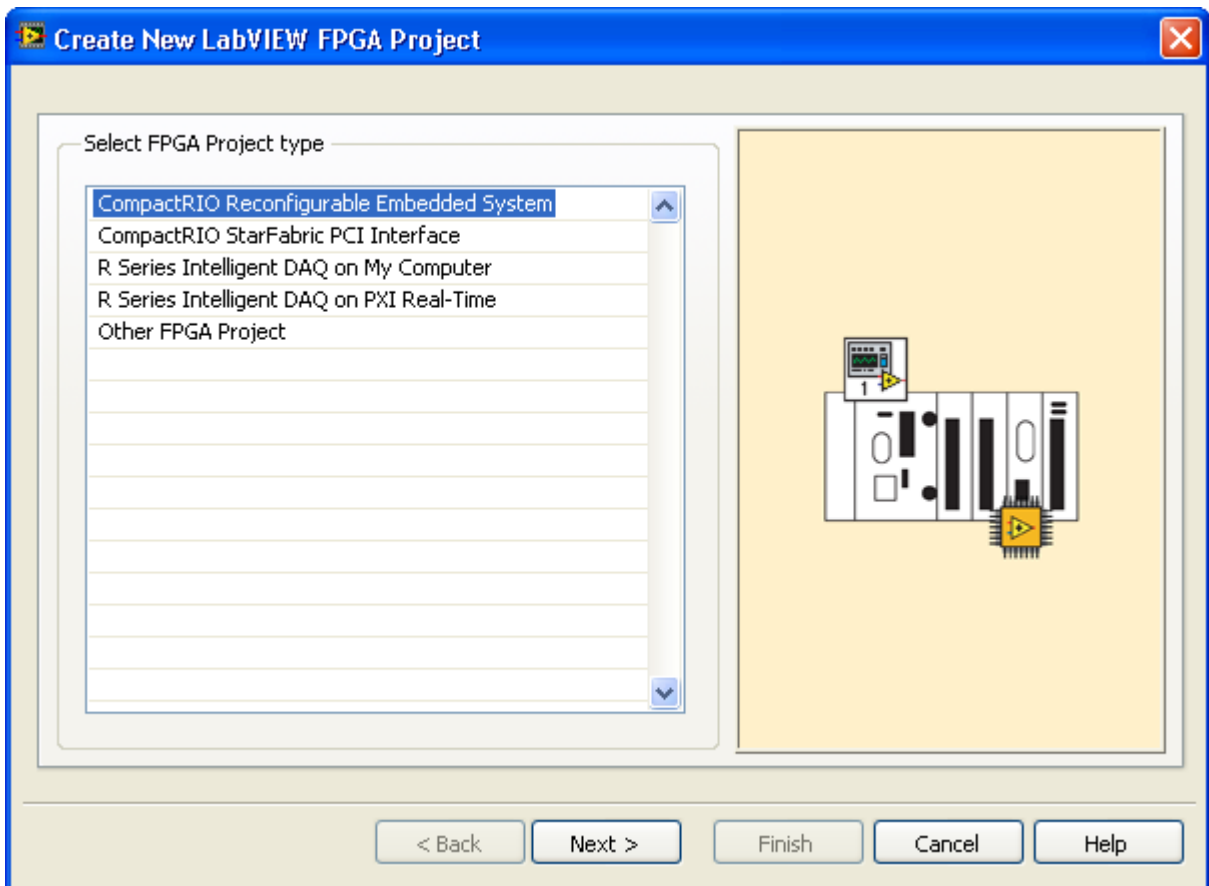

Figure A2 Create New LabVIEW FPGA Project
2. Select Compact RIO Reconfigurable Embedded Systems under Select FPGA Project Type in the Create New LabVIEW FPGA Project window and click Next, as shown in Figure A2